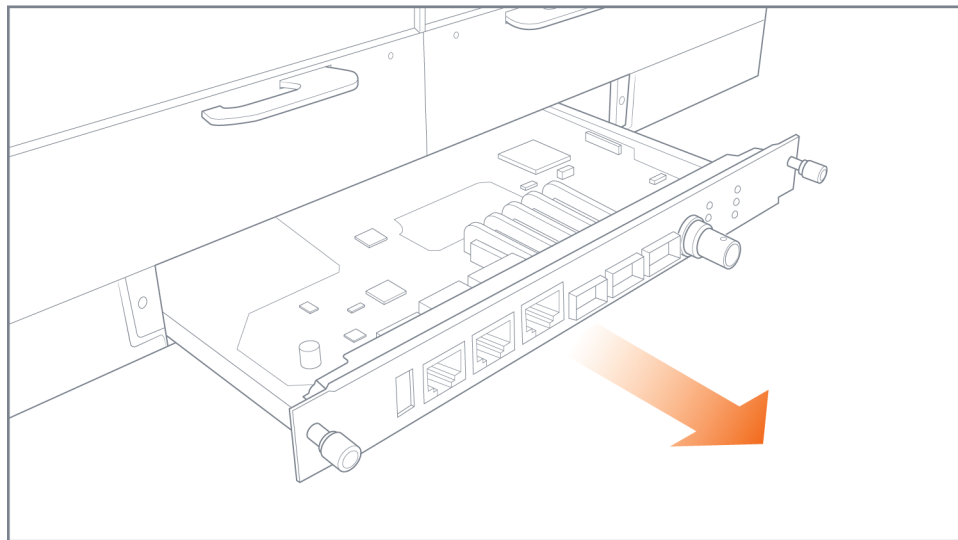

Figure 4-16: Extension Board Removal
4. Pull out the extension board as shown in Figure 4-16 on page 84.